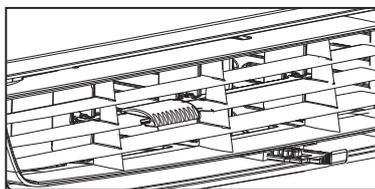

Figure 3 (VENT OPEN)
- Exchange air from the room - Vent Open (see Fig. 3)